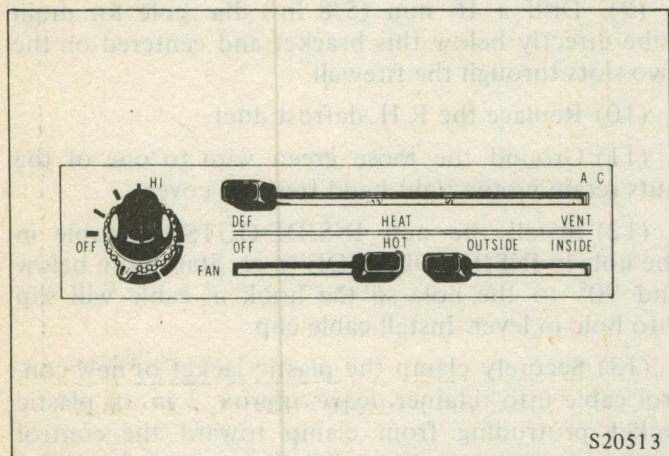

Fig. 23 Original Switch Plate
(15) Install the decals on the original switch plate. (Fig. 23) Center on switch hole, A/C above top slot.
(16) Install the new fan thermostat switch into switch panel. Reinstall switch panel and connect wire from switch to matching wiring harness.